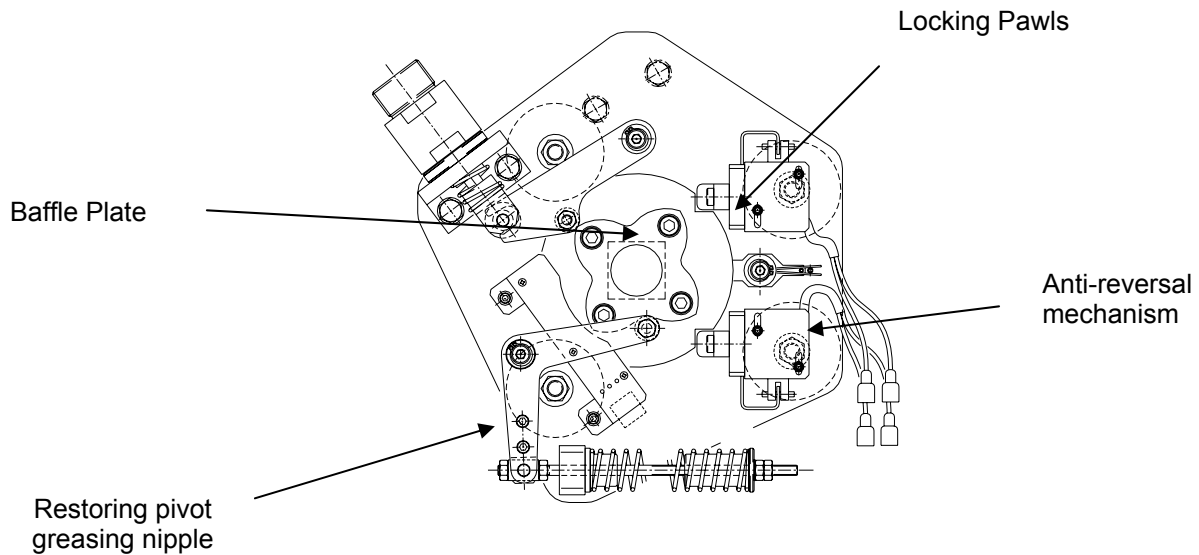

Figure 6.1. Head Mechanism – Main Components
5. Lubricate with grease (see the Figure 6.1):